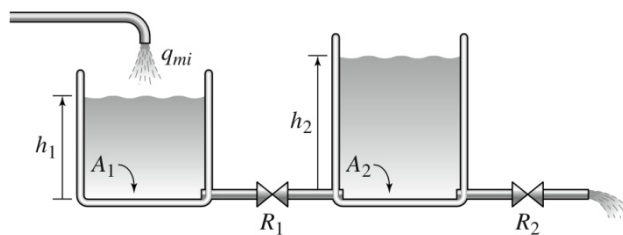

Fig. 4
4. (a) Develop a model of the two liquid heights in the system shown in Figure 4. The inflow rate $q_{mi}(t)$ is a mass flow rate. (b) Using the values $R_1=R$, $R_2=3R$, $A_1=A$, $A_2=4A$, find the transfer function $H_2(s)/Q_{mi}(s)$